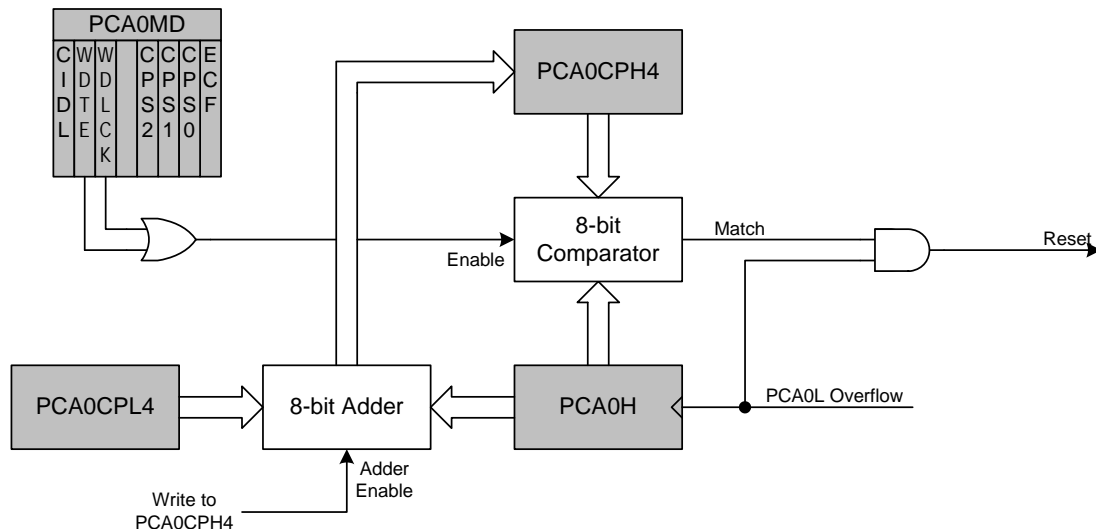

Figure 29.11. PCA Module 2 with Watchdog Timer Enabled
While the WDT is enabled, writes to the CR bit will not change the PCA counter state; the counter will run until the WDT is disabled. The PCA counter run control bit (CR) will read zero if the WDT is enabled but user software has not enabled the PCA counter. If a match occurs between PCA0CPH4 and PCA0H while the WDT is enabled, a reset will be generated. To prevent a WDT reset, the WDT may be updated with a write of any value to PCA0CPH4. Upon a PCA0CPH4 write, PCA0H plus the offset held in PCA0CPL4 is loaded into PCA0CPH4 (See Figure 29.11).